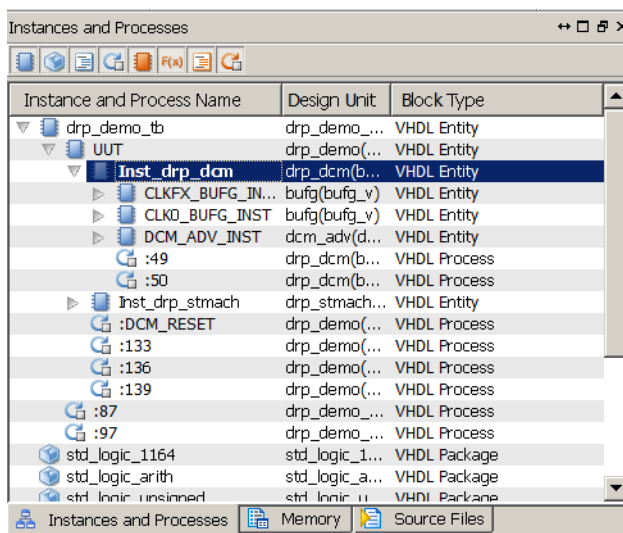

Figure 3-16: Instances and Processes Panel
1. Select the Instances and Processes panel, and in the panel, expand the hierarchy under drp_demo_tb as shown in Figure 3-16.